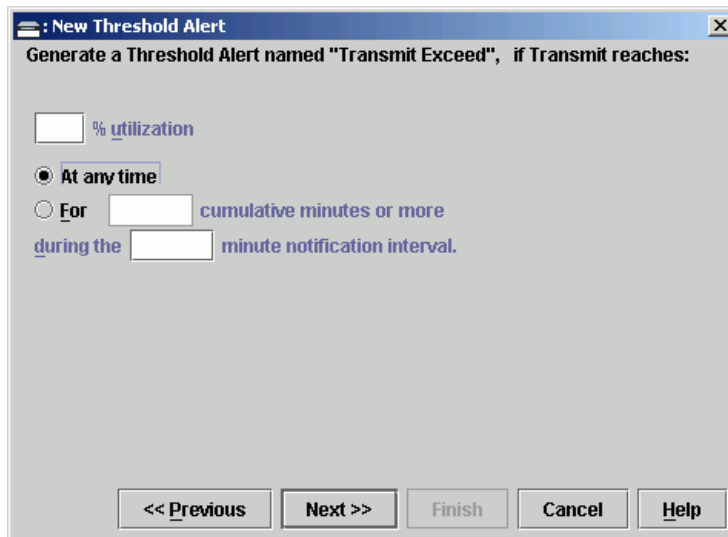

Figure 2-97 New Threshold Alert Dialog Box (Screen 2)
5. Click *Next*. The *New Threshold Alert* dialog box (screen 2) displays (Figure 2-97 on page 2-107). The name configured for the alert appears at the top of the dialog box.